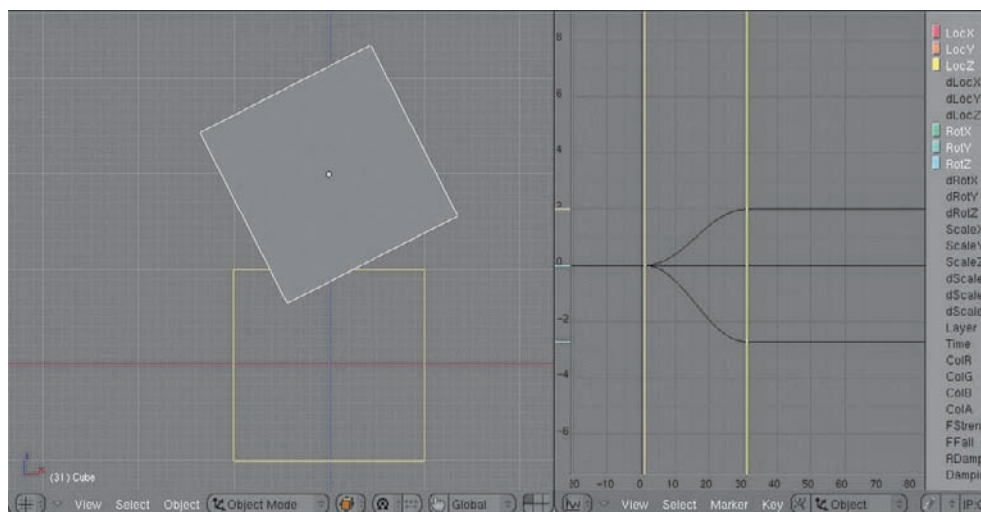

Figure 6.19 Keyed location and rotation at frame 31
2. Advance to frame 31 (click the Up button three times), move the cube up along the Z axis, and rotate it slightly to the left. Key this location and rotation as shown in Figure 6.19. Note that the figure shows the keyframe view in both the Ipo Editor and the 3D window. You can toggle the keyframe view by pressing the K key. The keyframe view in the 3D window is convenient for adjusting actual keyed objects' positions.